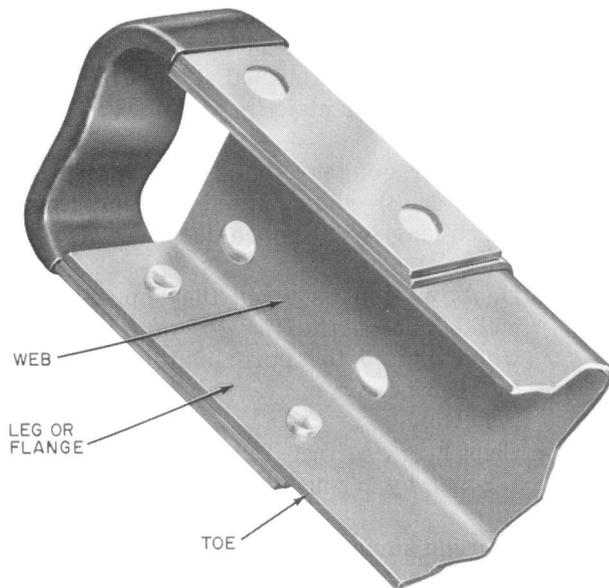

Fig. 8—Section of Ladder Rail
- Dents or gouges on the long edges of the toe (Fig. 8) when limited to approximately 1-inch long by 1/16-inch deep.
- Dents or gouges when they appear on the web or across the flanges or legs (Fig. 8) when limited to approximately 1-inch long by 1/32-inch deep.